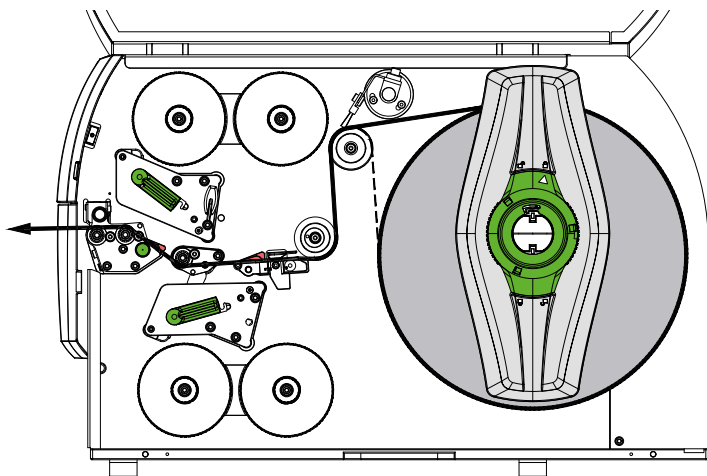
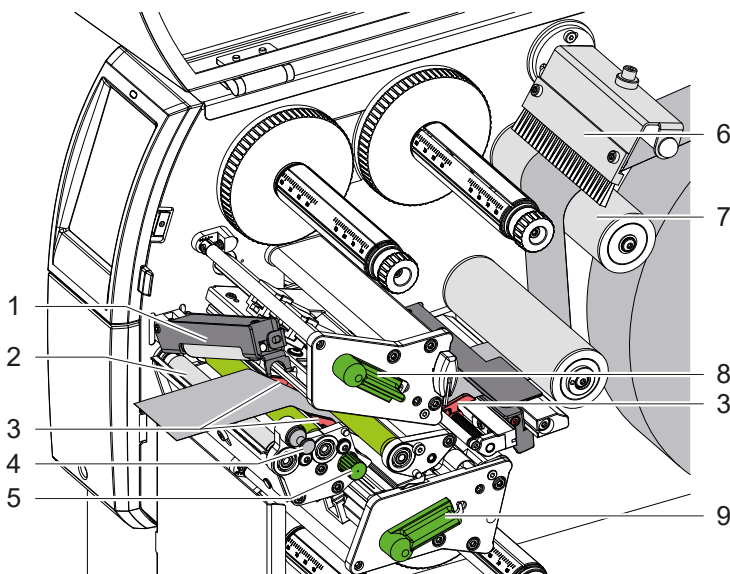

Figure 12 Media feed path
Figure 13 Inserting media into the print mechanics
1. Unroll a longer media strip. Guide the media strip to the print mechanics as shown in Figure 12.
2. Pull the detent pin (4). The pressing roller system (1) will swing upwards.
3. Turn lever (8) counterclockwise and lever (9) clockwise to lift both printheads.
4. Swivel the brush (6) from the roller (7).
5. Move guides (3) apart with the knob (5) until the media can pass between them.
6. Guide media strip through the print mechanics as shown in Figure 13 to the pinch roller (2) and place the strip between the guides (3).
7. Move the guides against the edges of the media by turning the knob (5).
9. Pull the detent pin (4). Push the pressing roller system (1) downwards and lock it with the detent pin.
12. Swivel the brush (6) to the roller (7).